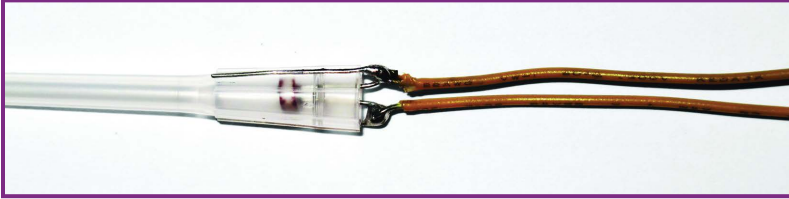

FIGURE 25-3. The photoresistor is inserted into the large end of the applicator tip.
5. Insert the photoresistor into the large end of the applicator (Figure 25-3), and hold it in place while you push the optical fiber into the small end until it touches the photoresistor.